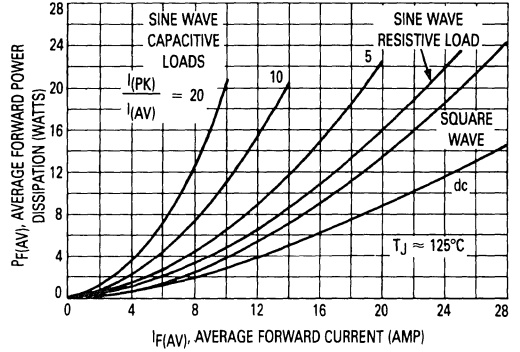

Figure 4. Forward Power Dissipation
Step 3: Find  $P_{F(AV)}$  from Figure 4. \*\* Read  $P_{F(AV)} = 12.8$